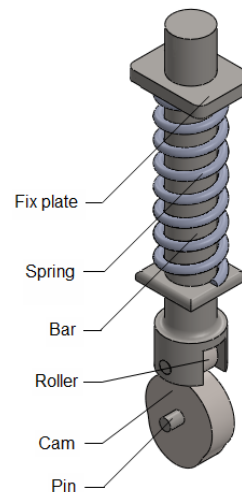

Figure 20-26 Assembly for performing motion study
12. Follow the above steps and assemble the other components of the assembly. Figure 20-26 shows the assembly after assembling all the components.